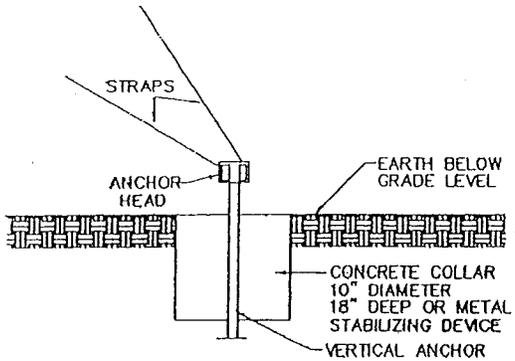

FIGURE 5-15
3. IF ANCHOR IS INSERTED VERTICALLY A CONCRETE COLLAR OR STABILIZING DEVICE MUST BE USED AT THE GROUND LINE. SEE FIG. 5-15 AND 5-18.
4. EACH OF THE STRAPS AND CONNECTIONS TO THE I-BEAM MUST HAVE AN ULTIMATE STRENGTH OF 4725 LBS. SEE FIG. 5-15 AND 5-16.
3. IF ANCHOR IS INSERTED VERTICALLY A CONCRETE COLLAR OR STABILIZING DEVICE MUST BE USED AT THE GROUND LINE. SEE FIG. 5-15 AND 5-10.
3. IF ANCHOR IS INSERTED VERTICALLY A CONCRETE COLLAR OR STABIUZING DEVICE MUST BE USED AT THE GROUND LINE. SEE FIG. 5-15 AND 5-16.